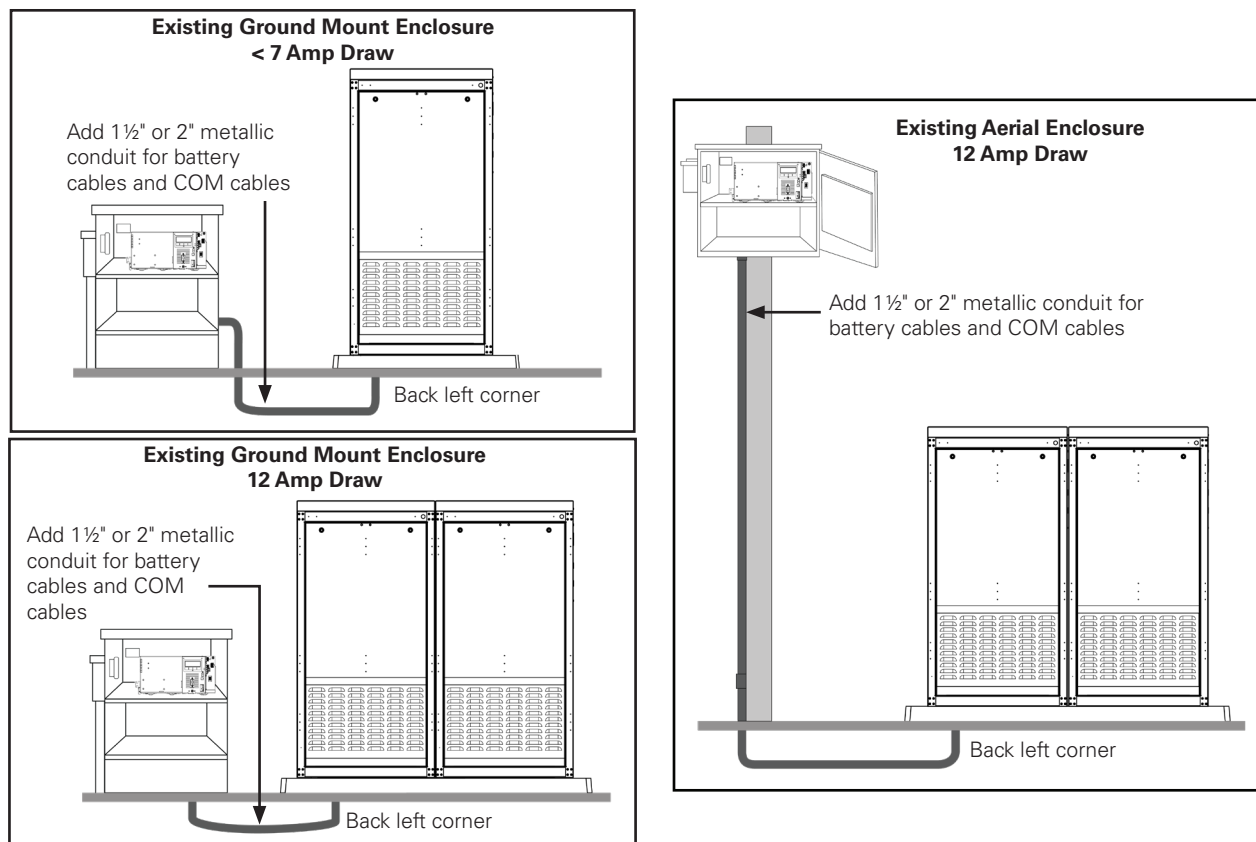

Fig. 4-13, Routing Conduit Underground Examples
1. If integrating an existing ground mounted UPE or PWE to house an XM3.1-HP™ power supply, install metallic conduit run from the PN-4LIB to existing enclosure (see Fig. 4-13). Use the cable access area in rear left side of enclosure to route wires. The rectangle entry through pad should be used to route wires from underground. The enclosures must be ground bonded.